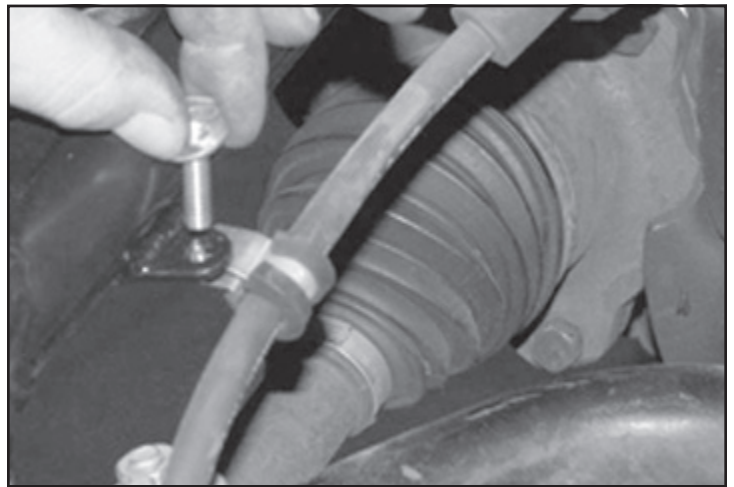

FIGURE 35
43. Attach the brakeline to the small tab on the control arm using the FTCLAMP, 1/4" -20 x 1" bolts, nuts and washers. **SEE FIGURE 35**